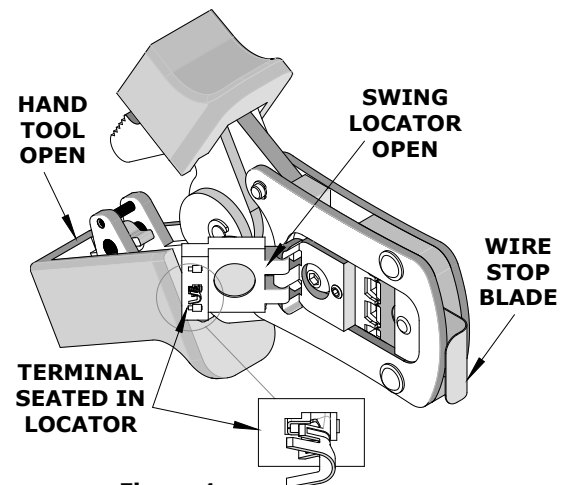

Figure 1
1. With the hand tool in the open position, pivot the terminal locator open by pulling on the locator knob and lift the wire stop blade. See Figure 1.